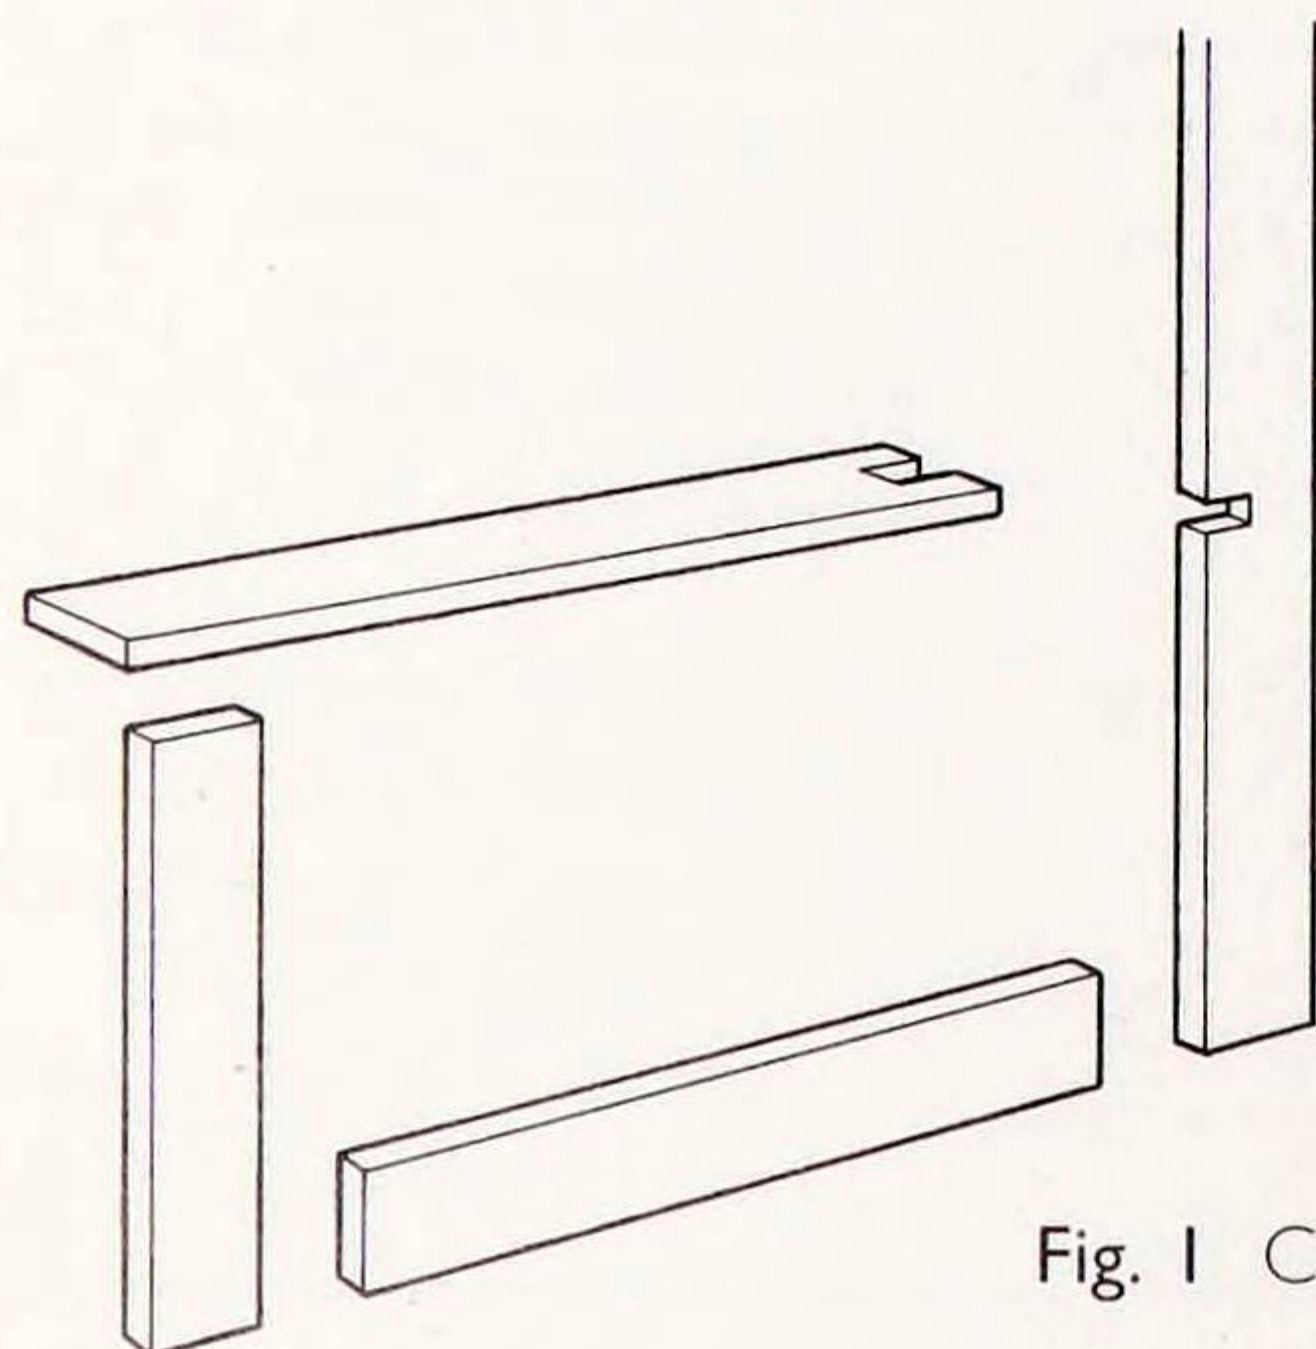

Fig. 1 Components of side frames
1. The basis of the design and the first priority is the construction of the two side frames. Each frame is based on four components; a front leg, a back leg, a lower rail and a top rail (Fig. 1). These can be jointed whichever way you prefer, either using mortise and tenons or other joints such as dowels. Note how the front top rail is halved into the upright back leg.